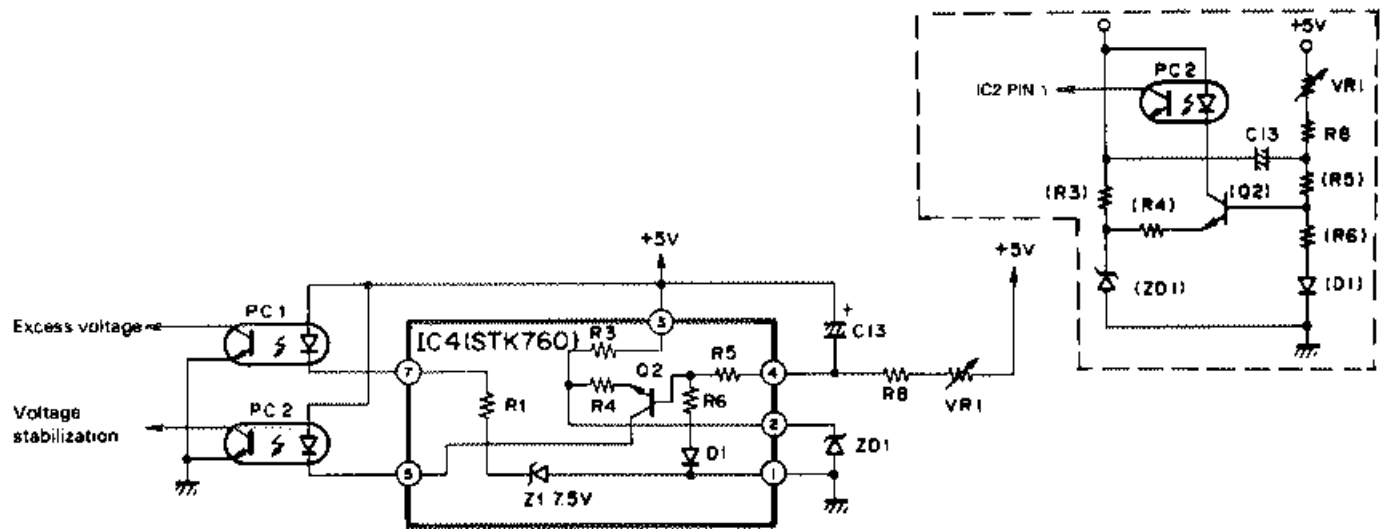

FIGURE 2-12. ERROR AMP AND EXCESS VOLTAGE DETECTOR (IC4)
2.2.6 Error Amplifier and Excess Voltage Detector (Figure 2-12)